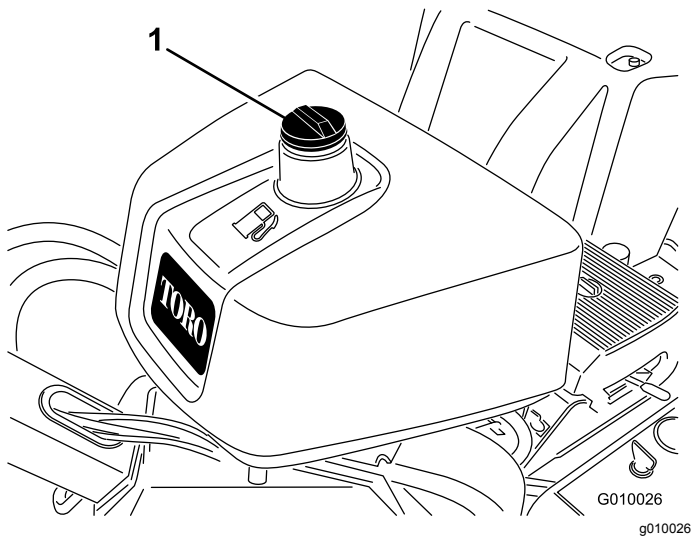

Figure 17
2. Clean around the fuel-tank cap and remove it (Figure 17).